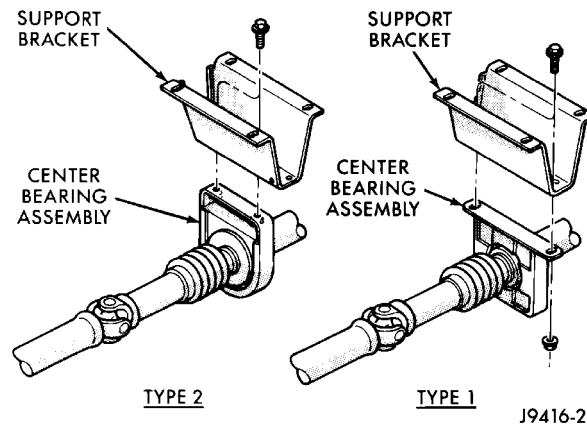

FIGURE 2 - Two-Piece Propeller Shaft Center Bearing
7. If equipped with a two-piece propeller shaft, with a suitable marker, mark the outline of the center bearing on the frame crossmember for installation reference. Then, remove the bolts that attach the center bearing to the support bracket (Figure 2).